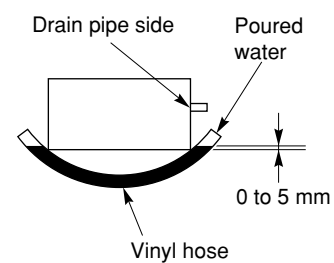

Fig. 3-25
- (4) The unit should be adjusted using water level or as shown in Fig. 3-25 so that the drain pipe side is slanted 5 mm lower than the opposite side.
- (5) After completing the adjustment of the clearance, fasten all upper and lower suspension nuts tightly.